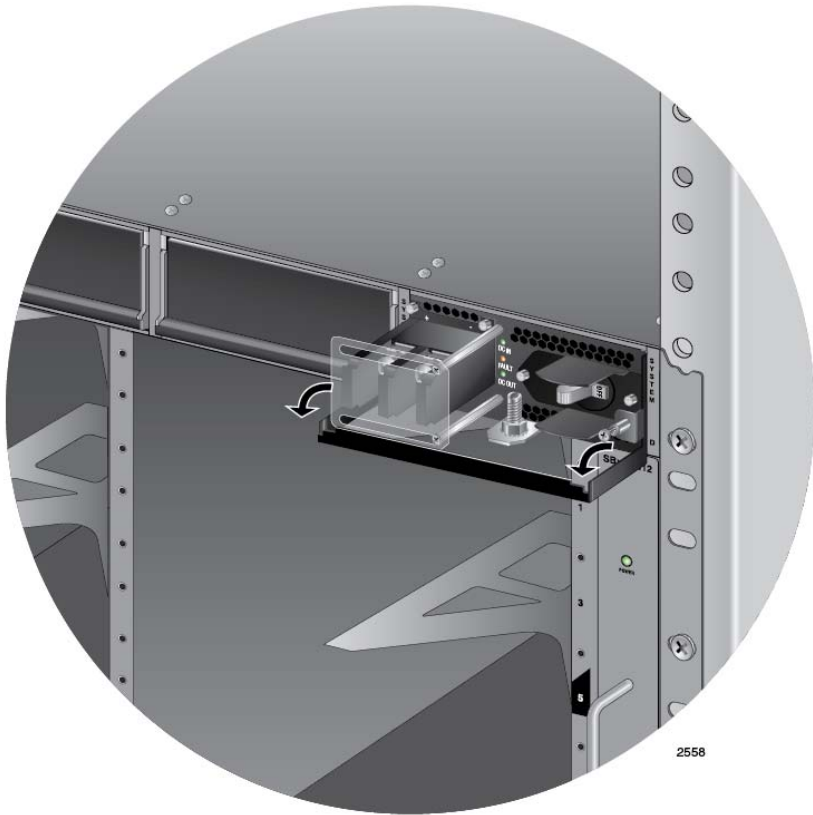

Figure 63. Locking the Handle on the AT-SBxPWRSYS1 DC System Power Supply
7. Lower the locking handle of the power supply module to secure the module in the slot, as shown in Figure 63.